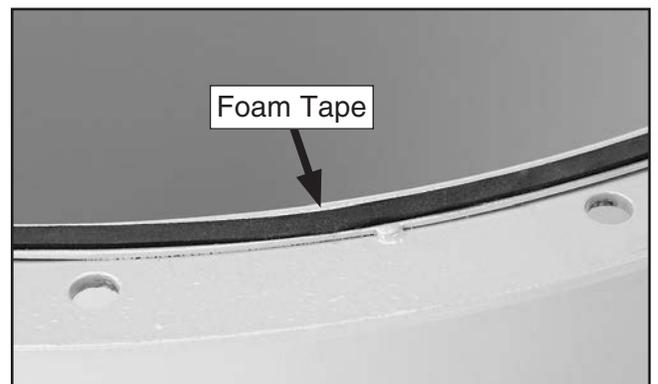

Figure 5. Foam tape applied to intake cylinder rim.
4. Place intake cylinder on floor and apply 3 x 6 x 1800mm foam tape to intake cylinder top rim, between mounting holes and inside edge (see **Figure 5**).